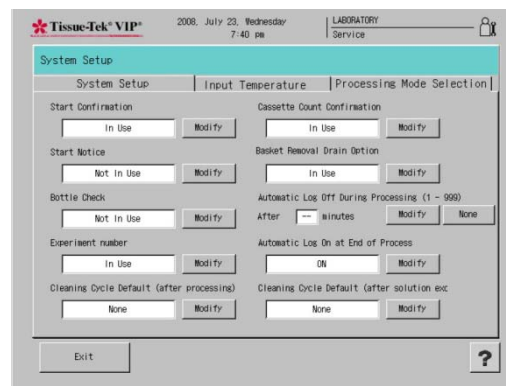

Figure 3-W
- The Processing Mode Selection screen displays (Figure 3-W)